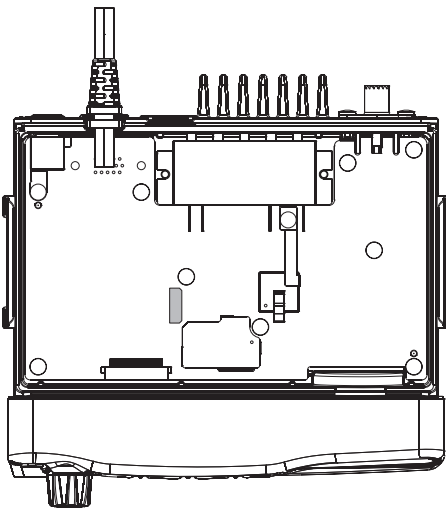

Figure 3
4. Referring to Figure 3, locate the empty connector for the Optional Unit, connect the Optional Unit here.